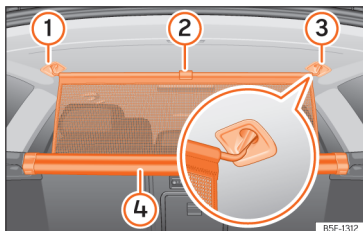

Fig. 183 In the boot: securing the partition net.
- Pull up handle >>> Fig. 183 ② to remove the net from the casing ④.
- Hook in the net partition on the right or left side ③ (magnified image).
- Hook in the net partition into the housing on the other side ① by pulling the rod.